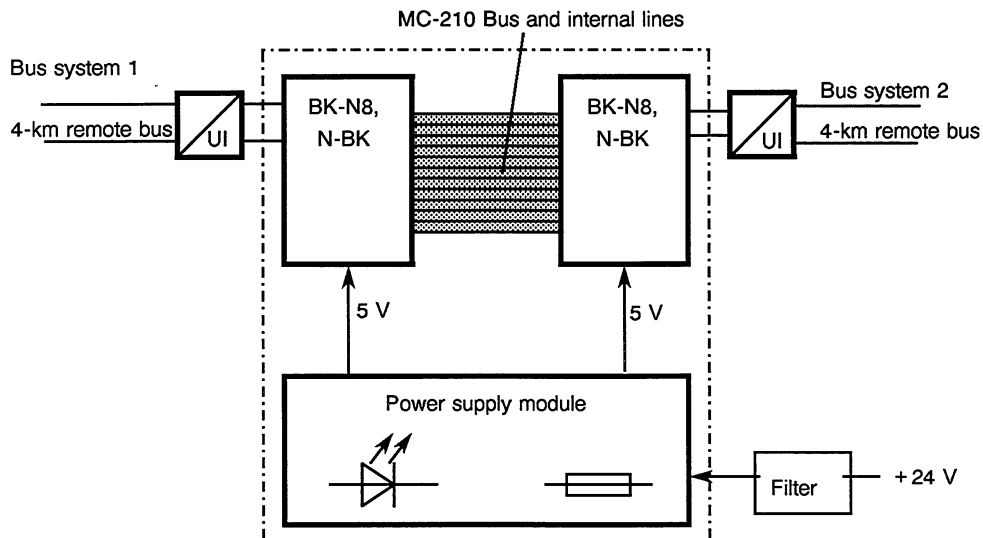

Fig. 3 Remote bus/remote bus coupler, functional diagram
In the BK-FF, the signals of the BK-N8, N-BK are conditioned for the remote bus by the inductive bus converter (UI) (Fig. 3). The conversion of local bus signals into remote bus signals is described in the instructions "Inductive Bus Converter" (Order No. C79000-B8076-C004).